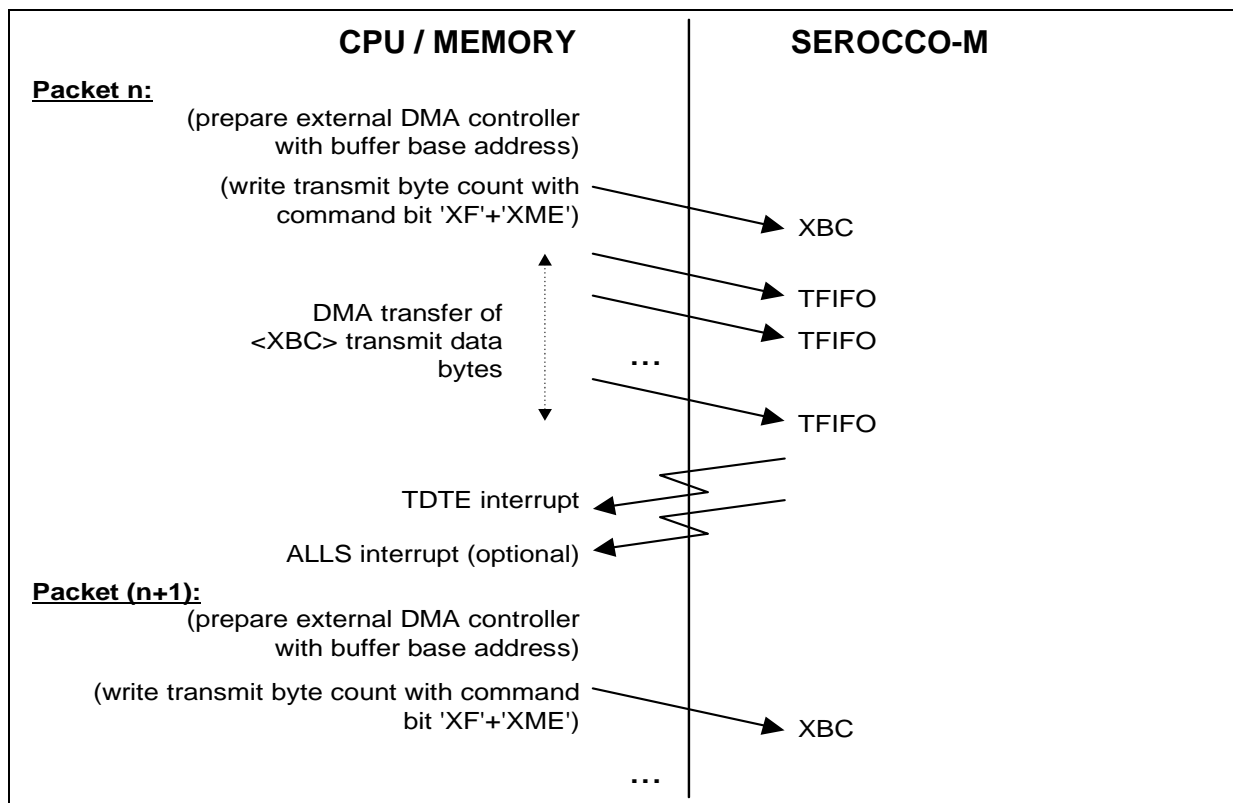

Figure 58 DMA Transmit (Single Buffer per Packet)
- If the prepared transmit buffer in memory contains a complete packet, the start command for DMA transmission is issued by setting bits 'XF' and 'XME' in register XBCH to '1'. The DMA support logic will request the external DMA controller to transfer data into the XFIFO. After the last byte has been transmitted, the protocol machine appends the trailer (e.g. CRC and Flag in HDLC), if applicable. The Transmit DMA Transfer End (TDTE) interrupt is generated (refer to Figure 58).